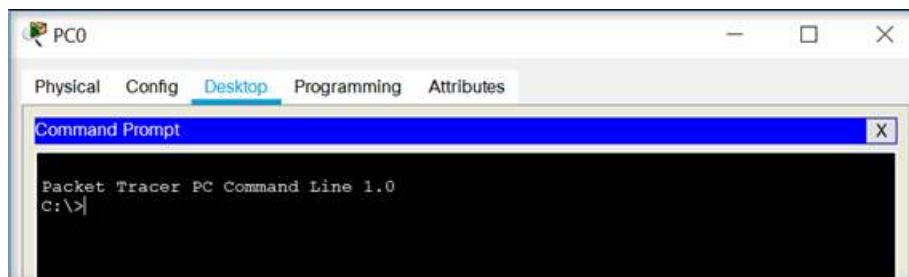

Figure 3.3: Command Prompt in Cisco Packet Tracer
- Figure 3.3 shows how the *Command Prompt* should appear.